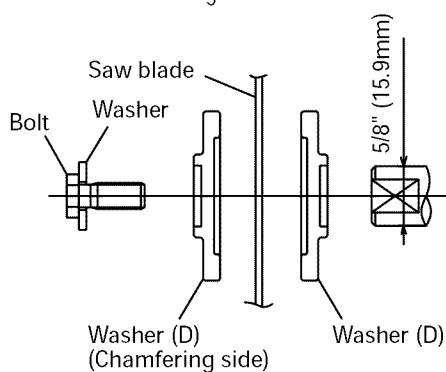

Fig. 33-d
- (7) Press in the spindle lock and tighten the bolt by turning it to the left by standard accessorie's wrench (10mm box wrench) as indicated in Fig. 33-c.